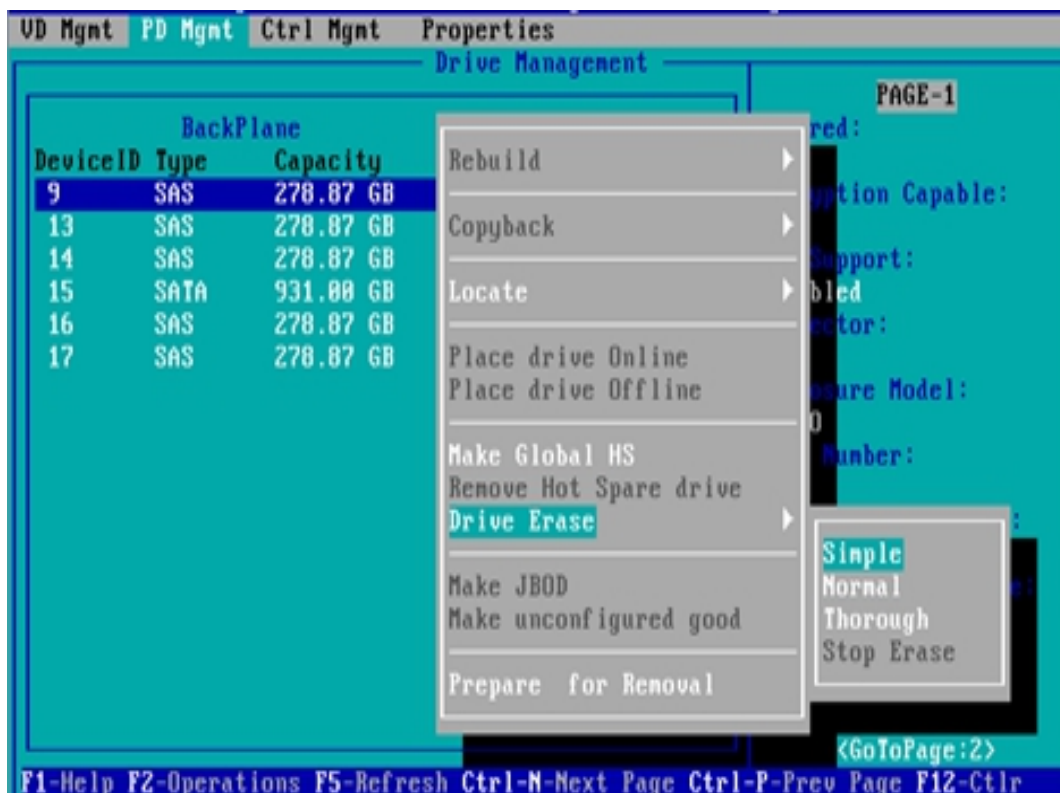

Figure 6-127
b) Enter the interface shown in figure 6-127, select erase mode (the default mode is recommended: simple), and press enter.
✧ Figure 6-127 select erase mode